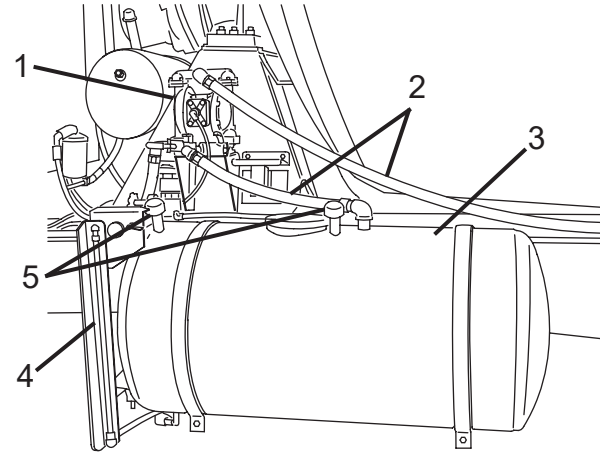

Figure 165
1. Inspect the water tank(s) (Figure 165, Item 3) for leaks, cracks, breaks, or structural damage.
2. Inspect hoses (Figure 165, Item 2) for leaks, cracks, or damage.
3. Inspect sight glass(es) (Figure 165, Item 4) for cracks or damage.
4. Check pump (Figure 165, Item 1) (if equipped) for proper operation.
5. Check breathers (Figure 165, Item 5) (if equipped) to make sure they are free of debris.